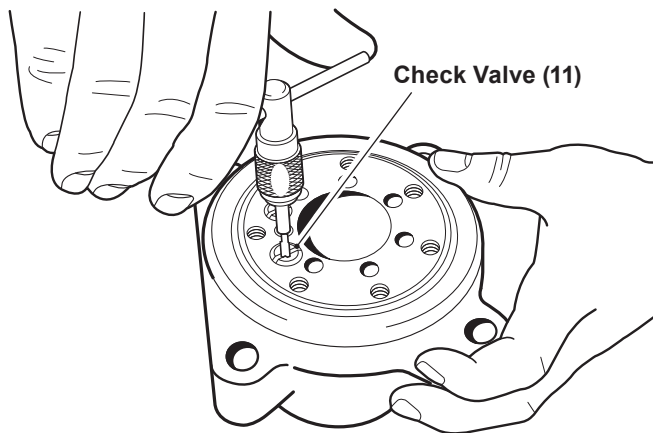

Figure 15, Check Valves
1. Remove castellated nut (1), woodruff key (6), plastic plugs (8), retaining ring (2), seven screws (22), seven washers (23), end cover (19), gearwheel set (17) with O-rings (16, 18), cardan shaft (15), distributor plate (14), O-ring (13), output shaft (7) needle bearing (12), And, from the output shaft — remove ball bearing (3), washer (4), and output shaft seal (5). See *pages 4 - 9*.
2. Remove the check valves (11) with a ground 3.5mm screw tap. See *figure 15*. The check valves are pressed in and can be removed by pulling on the tap.